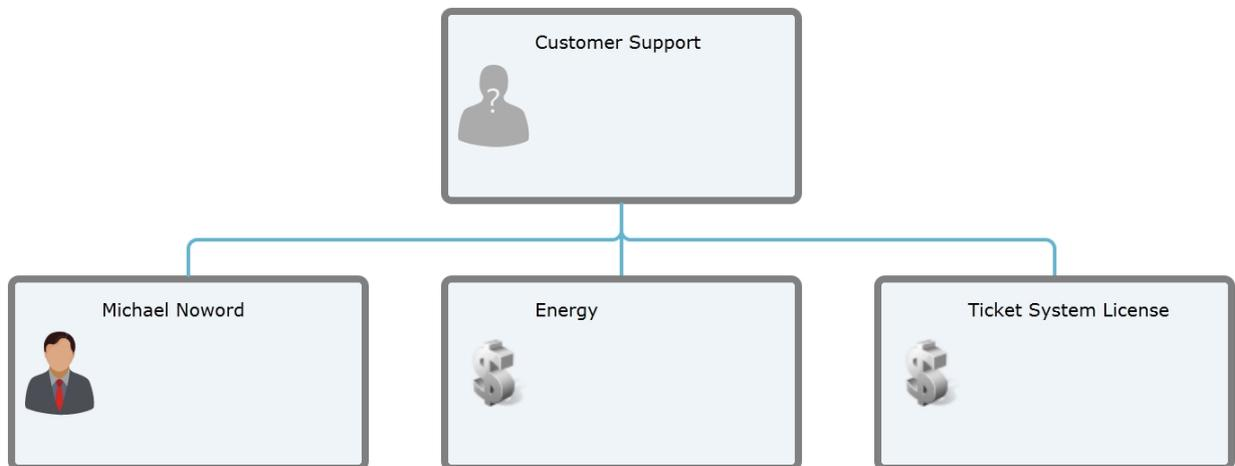

Figure 2: Organizational Diagram YOPRO link
- Model the organizational set-up (figure 2)